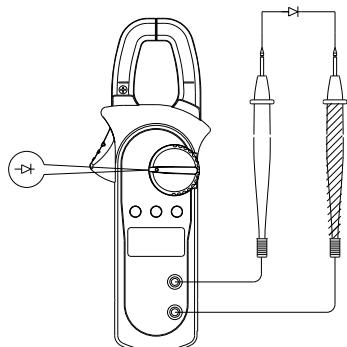

Figure 6
4. Diode measurement ($\rightarrow \square$) (shown in Figure 6)